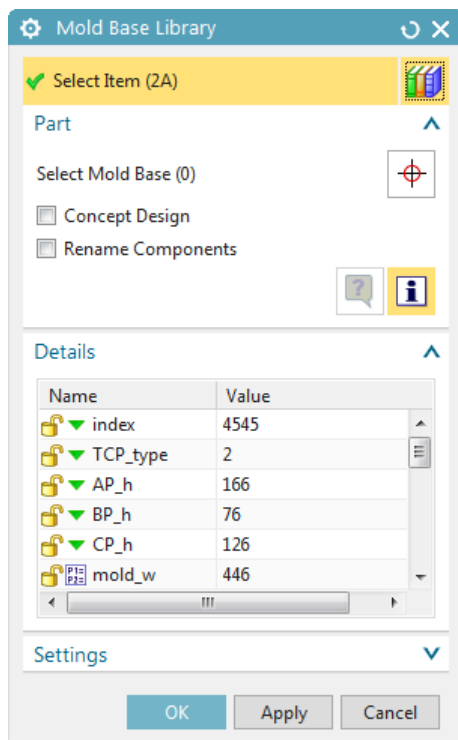

Figure 16-112 The Mold Base Library dialog box
1. Choose the **Mold Base Library** tool from the **Main** gallery of the **Mold Wizard** tab; the **Mold Base Library** dialog box is displayed, refer to Figure 16-112.
2. Expand the **MW Mold Base Library** from the **Main** panel. Select the **DME** folder. Right-click on **2A** in the **Member Select** panel and choose the **Insert** option; the **Mold Base Library** dialog box is displayed, refer to Figure 16-112 .